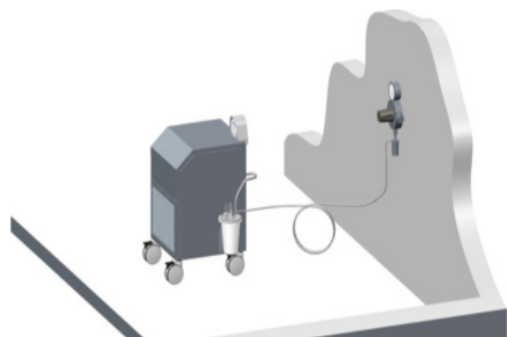

Fig. 11) 3T Aerosol Collection Set connected to the Heater-Cooler 3T and to the regulated vacuum source with the overflow safety trap
11. Attach the other end of the 366 cm (12 ft) ¼" ID vacuum source line 4 (see Figure 10) to a regulated vacuum source (see Figure 11).
3. Disconnect the 366 cm (12 ft) ¼" ID vacuum source line 4 (see Figure 10) from the vacuum source (see Figure 11).